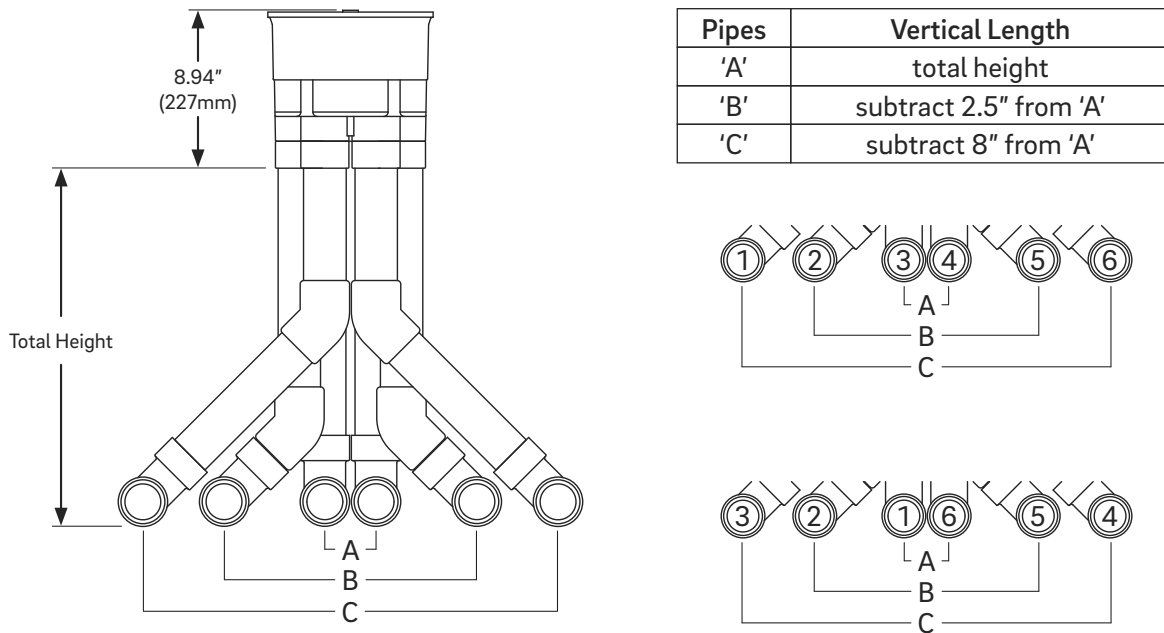

Figure 8
The Wave valve rotates in a clockwise direction when viewed from above. When the water valve is plumbed as followed, the porting sequence should be arranged differently depending on whether the main-drains are located in the middle or in the deep end of the pool (Figure 8).
2. For vertical pipes 'A', the zones in the rear of the plumbing diagram, determine and set the grade height (Figure 8). *Example: If the grade height is 16", cut two 16" lengths of pipe for vertical pipes 'A'.*